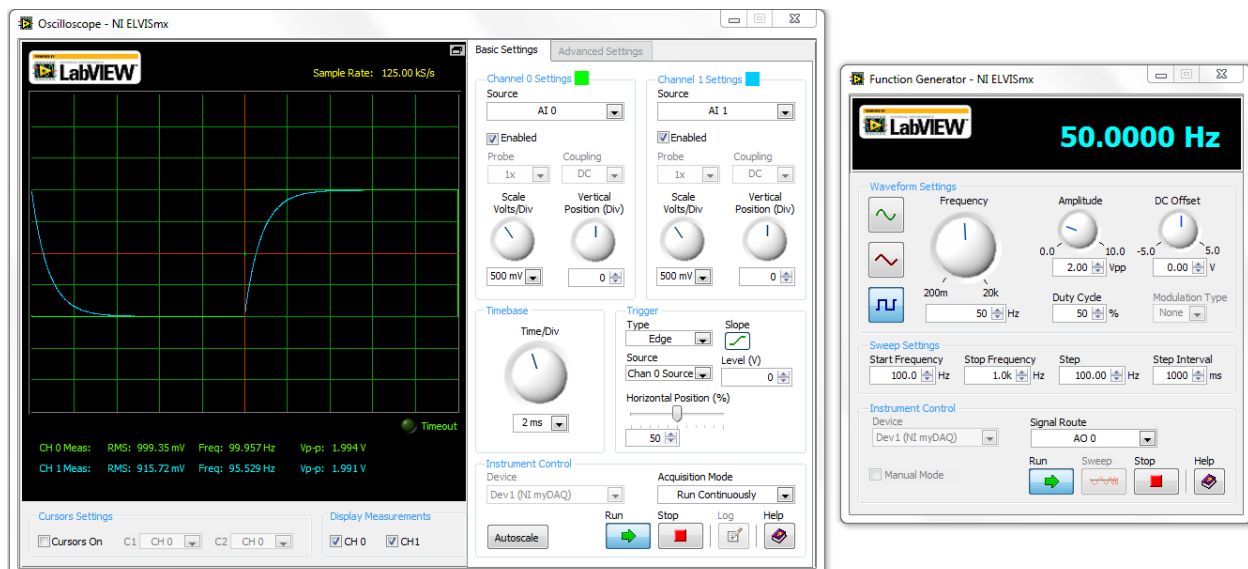

Figure 4: Scope measurements with the NI myDAQ
- Your function generator and scope output should look similar to the image in Figure 4 which represents the capacitor charging and discharging repeatedly. *Note that this was a different circuit so there will be some differences!!*